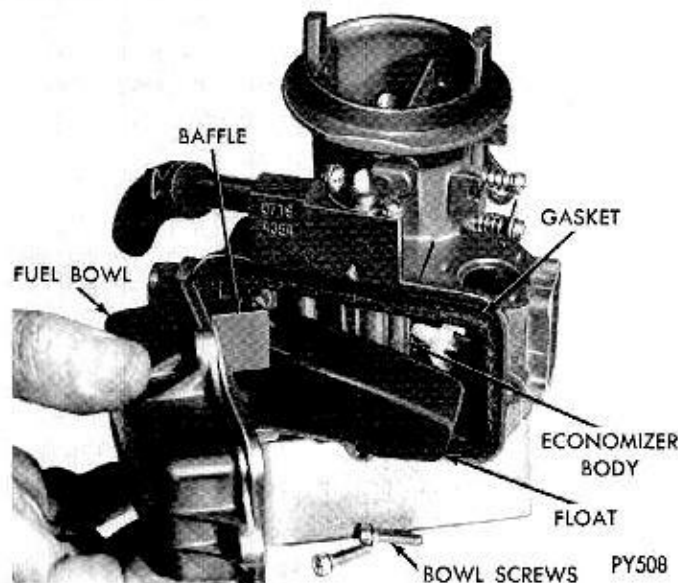

Fig. 6—Removing or Installing Fuel Bowl
(7) Remove fuel bowl attaching screws, then remove fuel bowl, baffle and gasket, (Fig. 6). Slide baffle